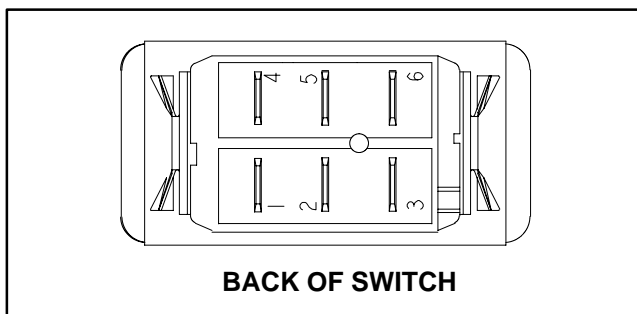

Figure 26
3. With the use of a multimeter (ohms setting), the switch functions may be tested to determine whether continuity exists between the various terminals for each position. The switch terminals are marked as shown in Figure 26. The circuitry of the headlight switch is shown in the chart below. Verify continuity between switch terminals.